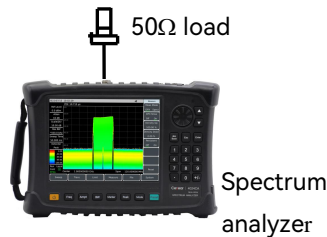

Figure 12-15 Residual responses test settings
1) Connect test instruments according to Figure 12-15. Connect a 50Ω load on the spectrum analyzer signal input port and set up the spectrum analyzer as follows: